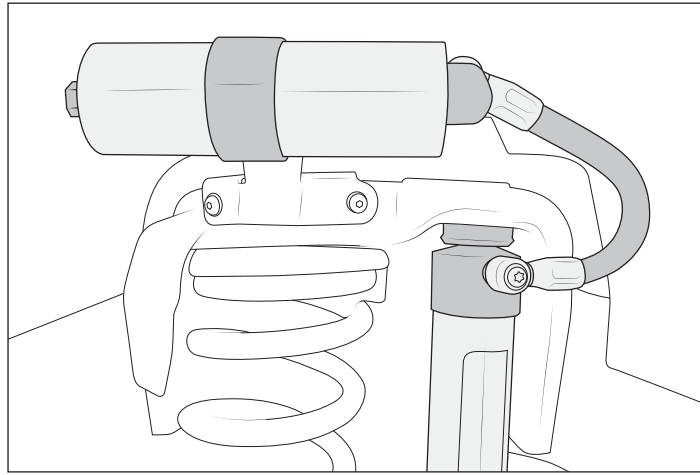

Figure 7
6. Hold reservoir mount in vehicle orientation (not vehicle position, there's not enough room to slide reservoir in place in vehicle position) and carefully slide reservoir into clamp, being careful not to damage paint on reservoir. Reservoir hose should point rearward from shock body, then loop up and forward to reach reservoir. Hose fitting on the reservoir should point inward toward center of vehicle and be at the rear of the reservoir when installed (fig. 7) Temporarily snug clamp bolt to prevent reservoir movement.
7. Install reservoir mount into previously drilled holes using provided M8x25mm button head bolts, washers, and nuts (fig. 7). Torque hardware to 30 ft-lb. Reservoir clamp can then be loosened to fine tune reservoir position and clocking. It should be roughly centered in the clamp with the hose fitting pointed straight inward toward center of vehicle. Reservoir can be clocked as needed to keep hose tight to wheel liner, but it should not make contact. Tighten the clamping bolt until snug, excessive force is not needed to hold the reservoir in place.